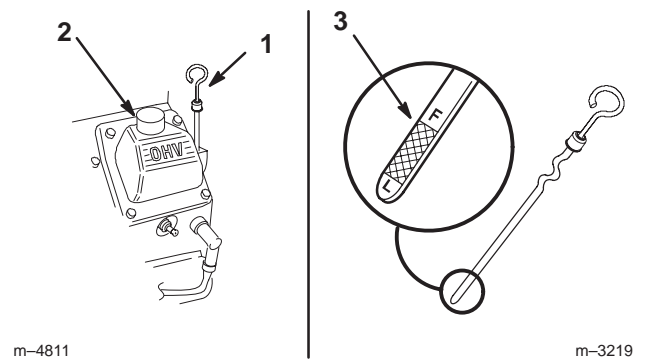

Figure 35
2. Clean around the oil dipstick (Fig. 35) so dirt cannot fall into the filler hole and damage the engine.
3. Pull the oil dipstick and wipe the metal end clean (Fig. 35).
4. Slide the oil dipstick fully into the filler tube. Pull the dipstick out and look at the metal end (Fig. 35). If oil level is low, slowly pour only enough oil into the filler tube to raise the level to the full mark.
5. Slowly pour approximately 80% of the specified oil into the filler cap (Fig. 35). Refer to Servicing the Engine Oil, page 31.